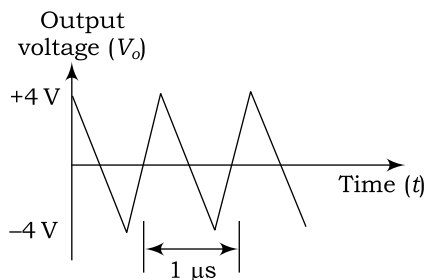

Fig. 6.54
24. The output voltage of an operational amplifier is shown in Fig. 6.54 When input voltage is a square wave 8 V peak-to-peak amplitude with 1 MHz frequency. What is the slew rate of the operational amplifier?